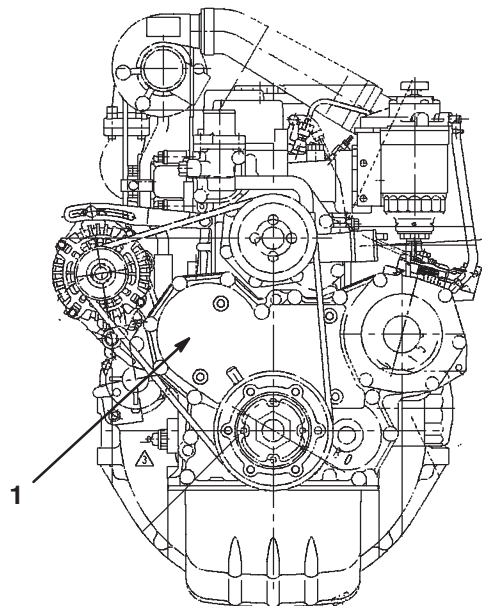

Figure 2
Remove the (4) bolts securing the shipping cover and the foam to the front of the engine (Fig. 2). Discard the bolts, cover and foam.